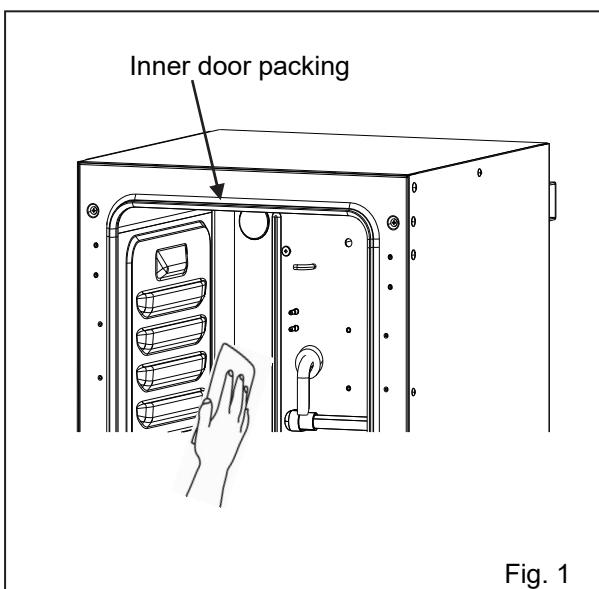

Fig. 1
3. Thoroughly wipe clean the inner walls of the chamber, the inner attachments, the temperature sensor, the humidity control bar, and the UV lamp using gauze moistened with a proper amount^{*1} of alcohol for disinfection (Fig. 1). Make sure to take particular care in cleaning corners and joints of the product.